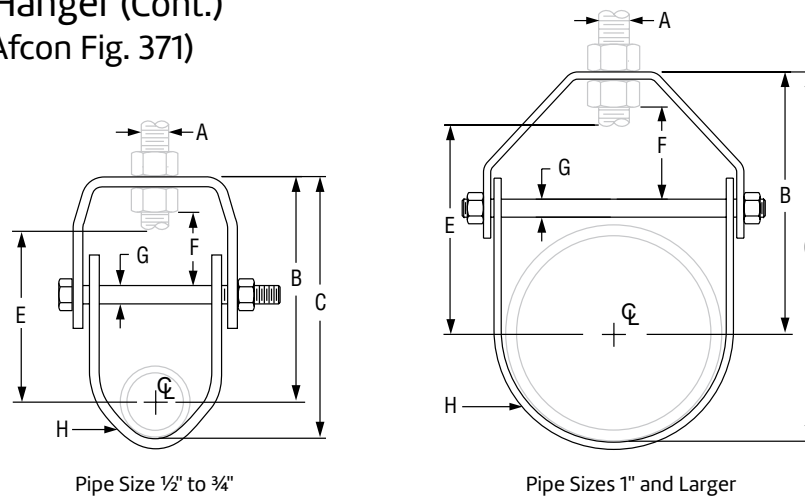

Fig. 260: Dimensions (in) • Loads (lbs) • Weight (lbs)
Adjustable Clevis Hanger Fig. 260 (Formerly Afcon Fig. 371)
- For insulated line options without shields, see Figures 260 ISS and Figure 300. For insulated options with shields see our VEP product line and our Figure 167 "Lok-Shields". For ductile iron pipe sizes, see Figure 590.
Adjustable Clevis Hanger (Cont.) Fig. 260 (Formerly Afcon Fig. 371)